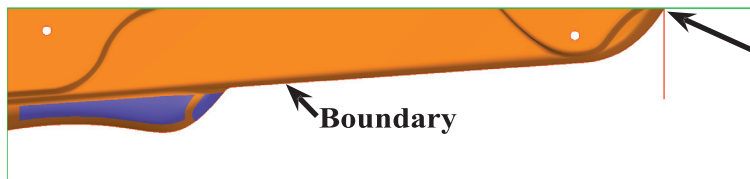
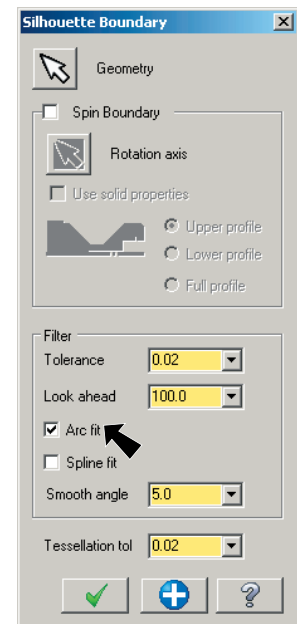

Fig. 37
Fig. 36
Step 6. Check **Arc Fit**, **Fig. 36** and click **OK** , **Fig. 37**
Step 8. Draw a **vertical line down from front end of the solid body**, **Fig. 37**. Press **ENTER**. Click **OK**  in ribbon bar.